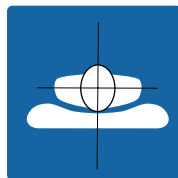

Figure 1: Center patient
5. Center the patient on the support surface (Figure 1 on page 11).